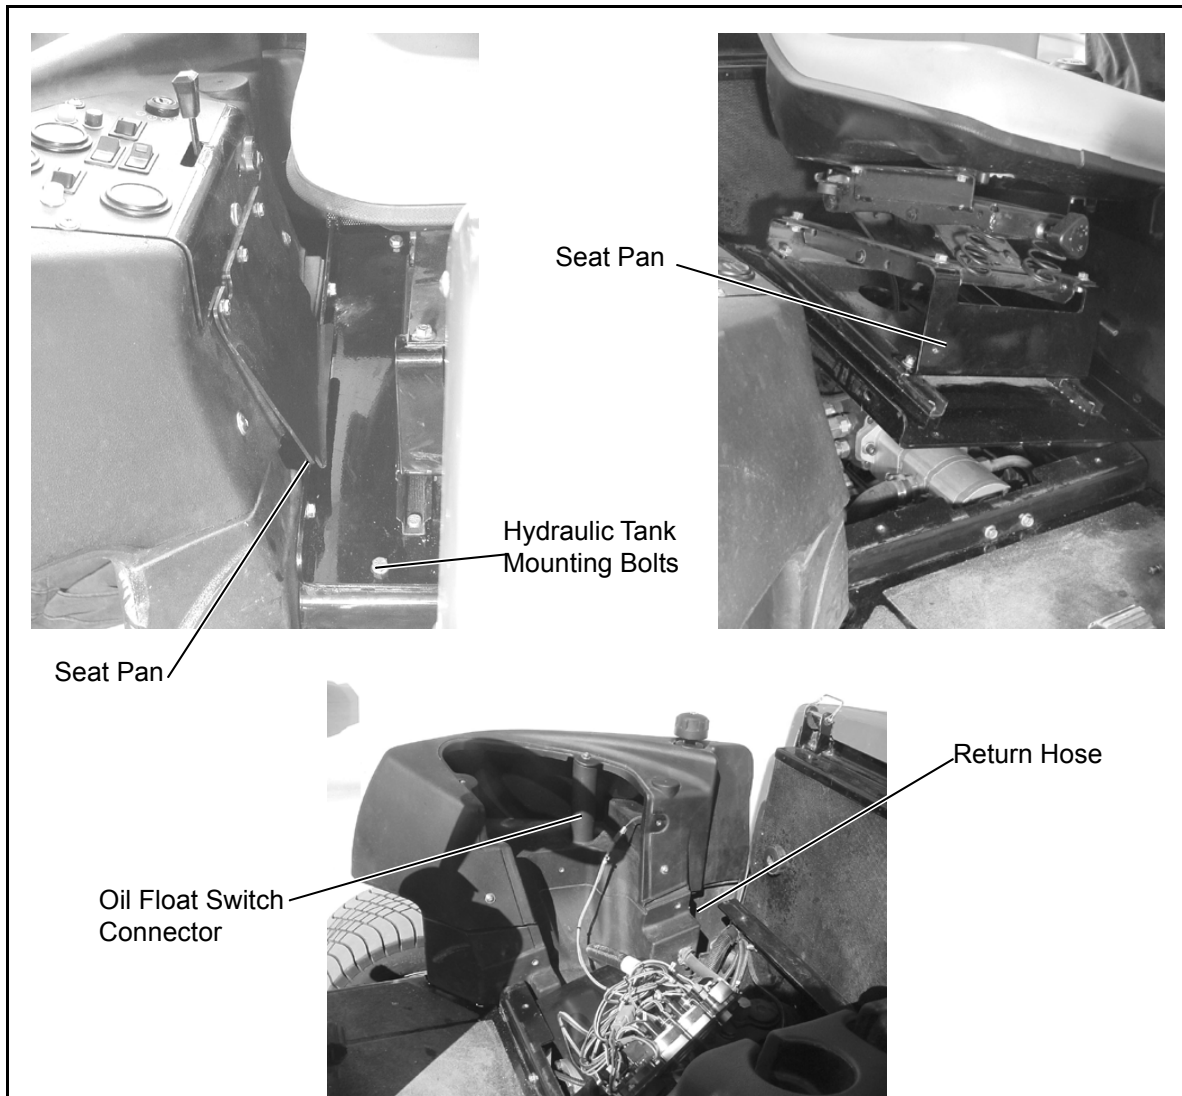

Figure 9D-1. Hydraulic Tank Removal/Installation
3. Remove the seat pan mounting bolts, the fuel tank mounting bolts, and the hydraulic tank mounting bolts (Figure 9D-1).
5. Using tags created during removal, connect the oil float switch connector to the wiring harness (Figure 9D-1).
8. Position the seat and seat pan between the fuel tank and the hydraulic tank. Insert the seat interlock switch wiring harness through the seat pan. Secure the tanks and seat pan with the mounting bolts (Figure 9D-1).